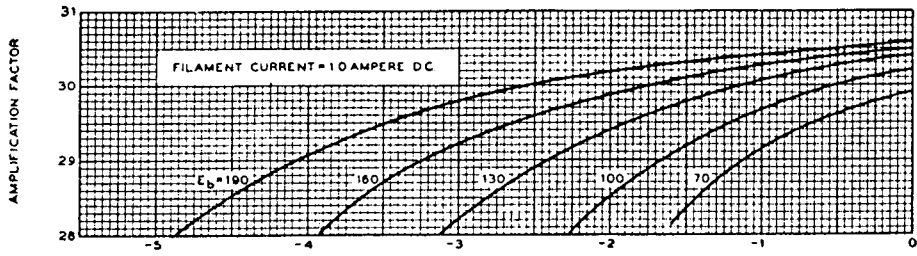
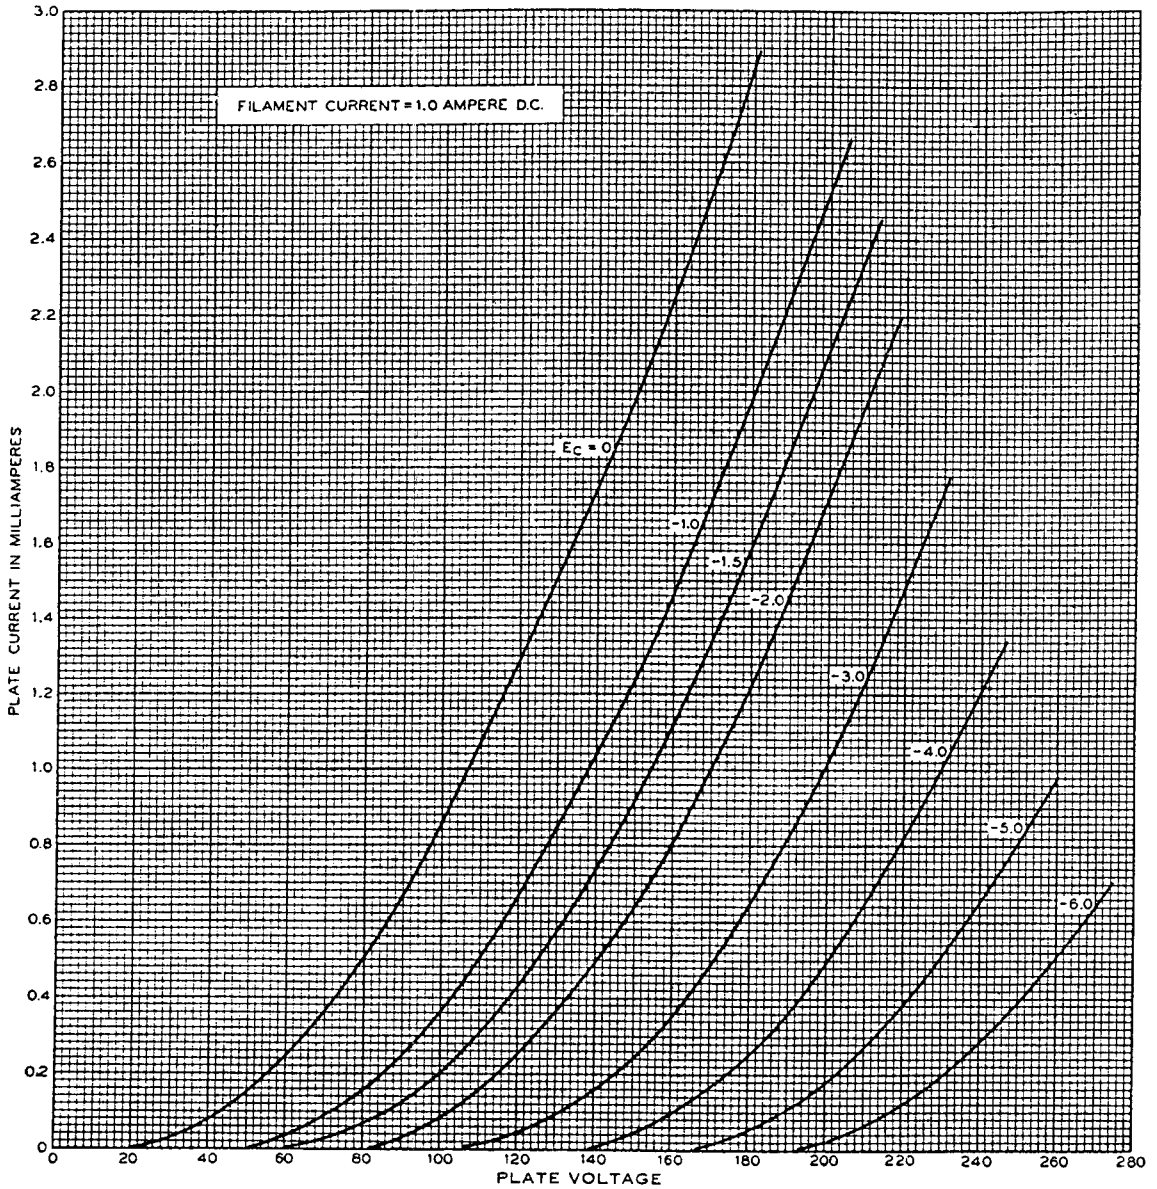

FIG. 4
FIG. 7
**Characteristics**—Plate current characteristics of a typical 102G tube are shown in Figure 3 as functions of grid voltage for several values of plate voltage. The grid and plate voltages are measured from the negative end of the filament. Corresponding amplification factor, plate resistance, and transconductance characteristics are given in Figures 4, 5 and 6, respectively. Plate current characteristics as functions of plate voltage are shown in Figure 7 for several values of grid voltage.